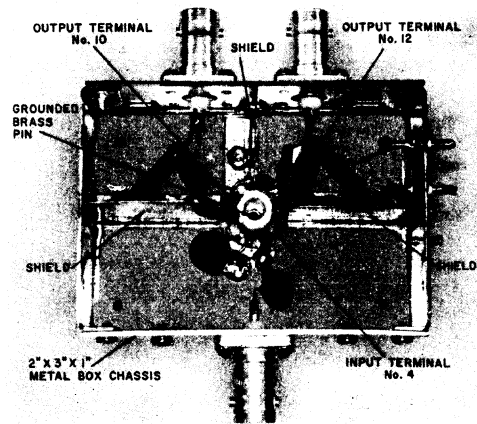

Fig.6 - Test Circuit Layout
Stable high-frequency operation requires that proper high-frequency construction techniques be followed. The photograph of Fig.6 illustrates the precautions taken in the construction of the test circuit of Fig.3.
1. Use sockets only when necessary. Sockets, when used, must provide shielding within the pin circle. The socket shown in the chassis of Fig.6 is a Barnes MG-1201, or equivalent, modified by drilling a 1/8" hole in the center and inserting a grounded brass pin.